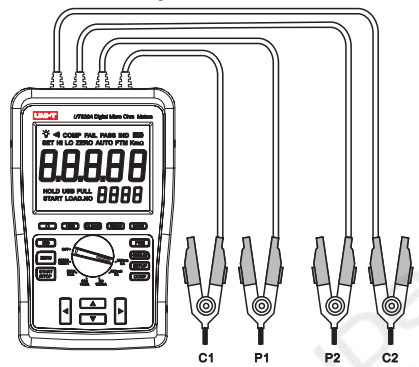

Figure 8:
- Connect alligator clips to P1, P2, C1 and C2 terminals of the meter and to the object under test; P1 and P2 alligator clips are placed inward as shown in Figure 8